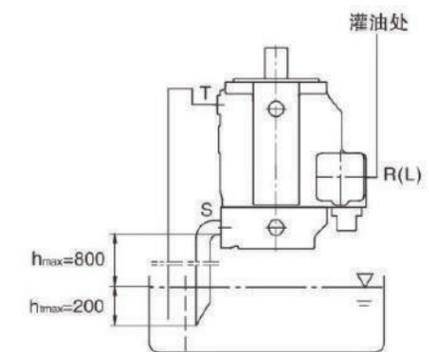

图2
b) 如油箱的最低液面低于泵的法兰面，《R/L》口、《T》口以及可能包括《S》口必须用管道连接，如图2所示。此情况与本节《安装在油箱外》中所述的相同。
When the minimum level in the tank is lower than the flange face of the pump, port R/L, T and possible port S must be connected with pipes, as shown in Figure 2. This situation is same as what is specified in Mounting outside of the Tank in this section.
在安装时的灌油：通过《R/L》口灌油，通过《T》口通气，然后将《R/L》口堵死(见图2)。